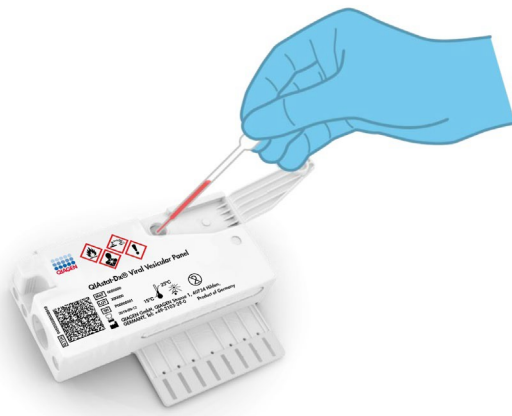

Figure 8. Transferring sample to main port of QIAstat-Dx Viral Vesicular Panel Cartridge.
6. Carefully transfer 300 μ L of sample volume into the main port of the QIAstat-Dx Viral Vesicular Panel Cartridge using the supplied single-use transfer pipette (Figure 8).